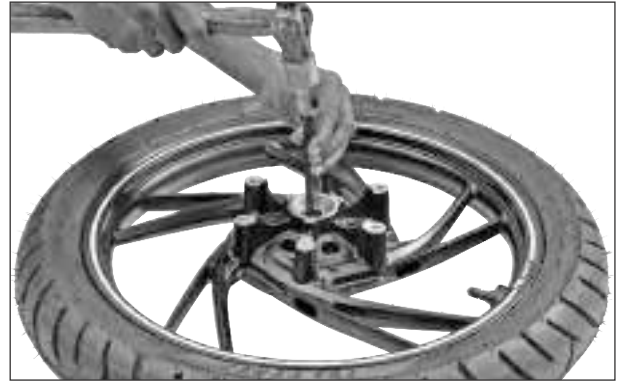

Fig. 6.5
- ▮ Gently tap out bearing left and right and spacer complete front hub with a suitable mandrel. (Fig. 6.5)